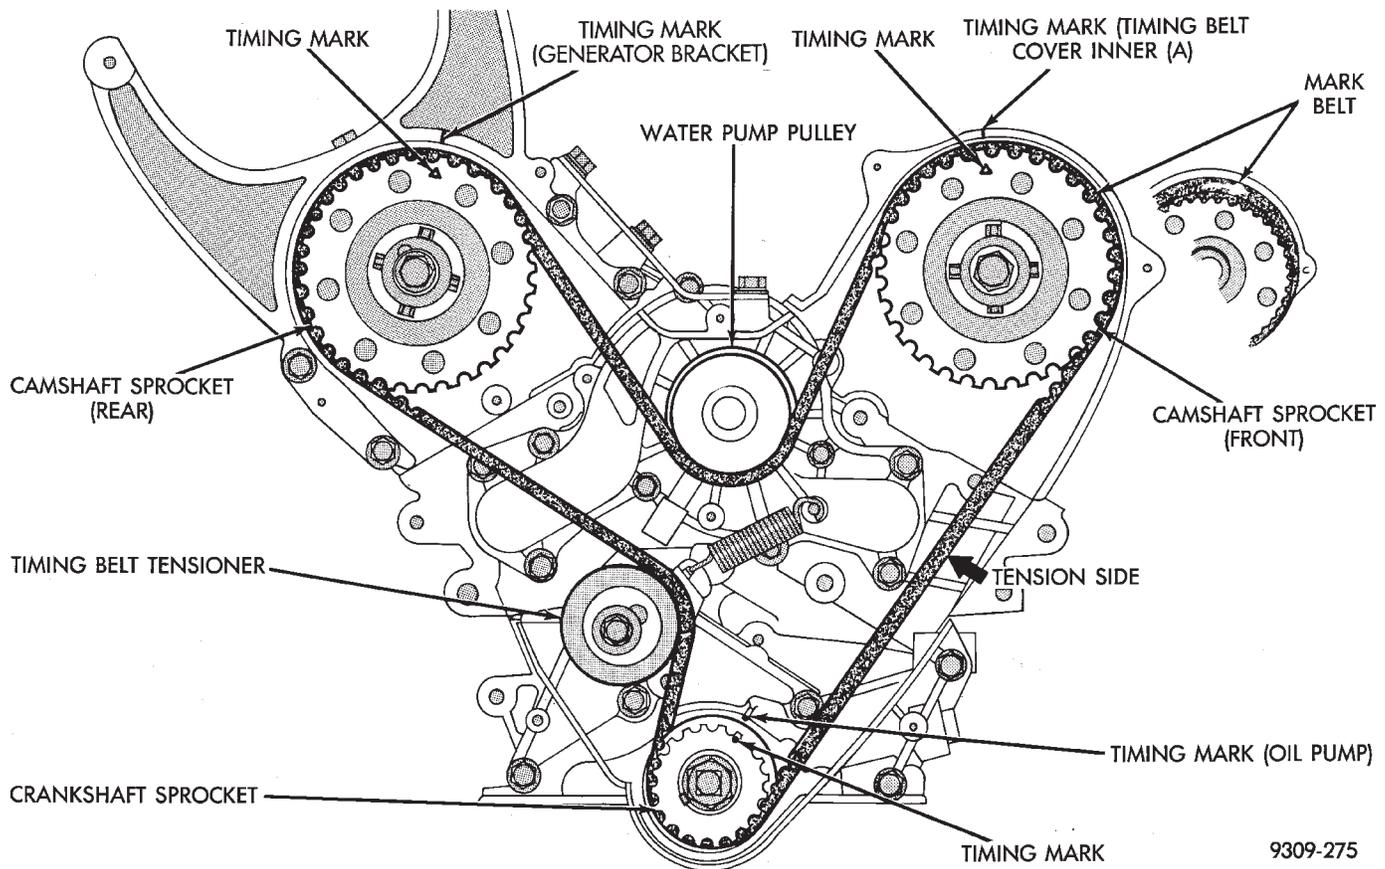

Fig. 14 Timing Belt Engine Sprocket Timing
- (1) Mark belt running direction for installation (Fig. 14).
- (1) Install timing belt on crankshaft sprocket first and while keeping belt tight on tension side (Fig. 14) install belt on the front (radiator side) camshaft sprocket.
(2) Then, install on the water pump pulley and on the rear camshaft sprocket and finally on the timing belt tensioner.
(3) Apply rotating force to the front camshaft sprocket in opposite direction to tension the belt tension side, check that all timing marks are lined up (Fig. 14).